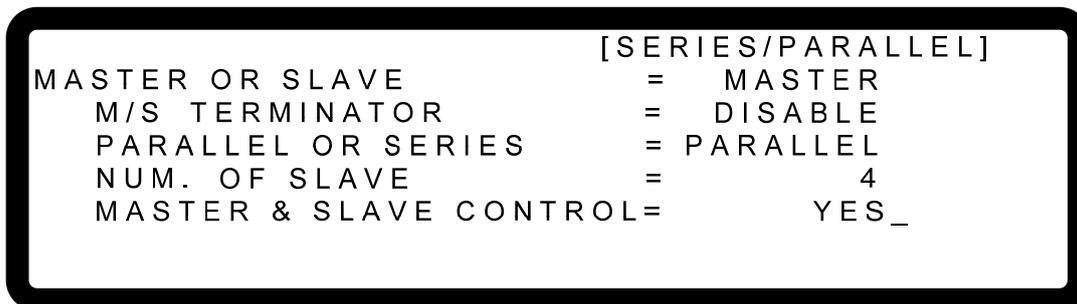

Figure 3-38
1. Use “”, “” keys to move the cursor to the column to be set as Figure 3-38 shows.